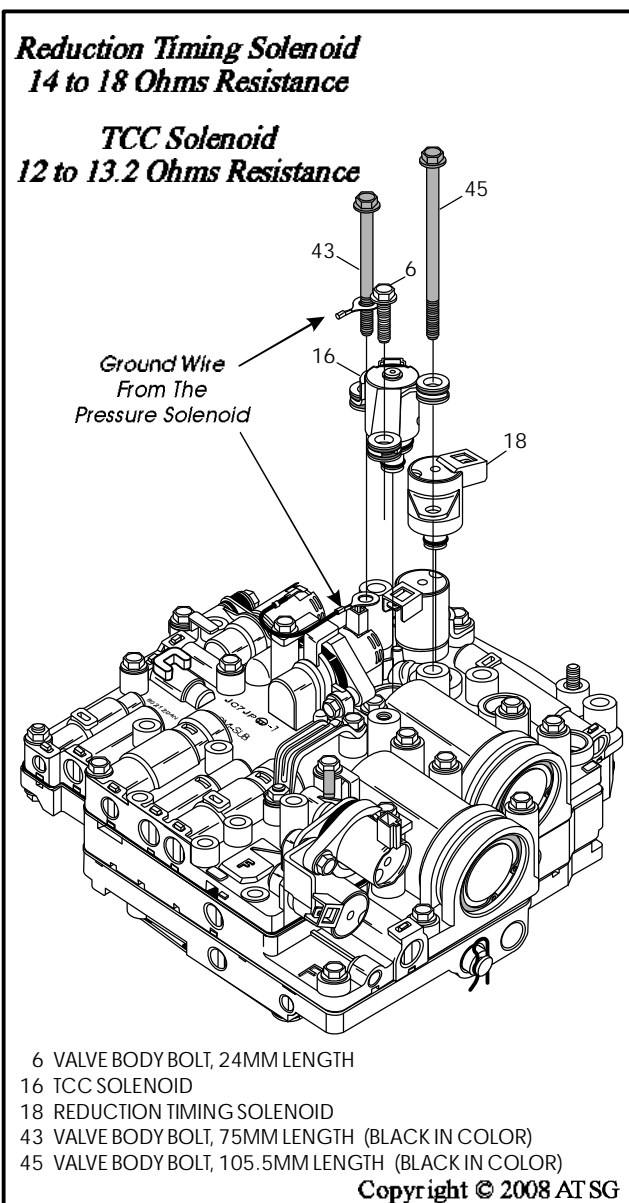

Figure 181
63. Install new "O" ring, lube with ATF, and install reduction timing solenoid into the valve body, as shown in Figure 181.
64. The reduction timing solenoid is "stacked" with TCC solenoid and goes in first, as shown in Figure 181.
66. Ensure that all mounting bushings are in place and install the TCC solenoid into valve body as shown in Figure 181.
67. Install the 105.5mm bolt, black in color, thru both TCC and reduction timing solenoids, as shown in Figure 181.
68. Install the 75mm bolt, black in color, and place it through ground wire terminal for the pressure control solenoid, as shown in Figure 181.
69. Install the 24mm bolt and hand tighten only, as shown in Figure 181.